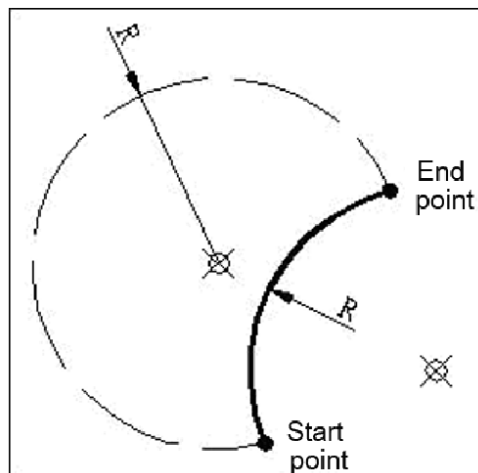

Fig. 3-4-4
- When I and K instruction words are used to define the circle center in the G02/G03 segment, the system will not give an alarm even if the end point is not on the arc. The trajectory of executing the instruction can be: the X-axis and Z-axis move simultaneously along the arc from the start point as per the circle center and arc direction defined by the instruction; the X-axis or Z-axis stops moving when the coordinates of the X-axis or Z-axis are the same as that of the end point, while the other axis (Z- or X-axis) continues to move to the end point. As shown in Fig. 3-4-4